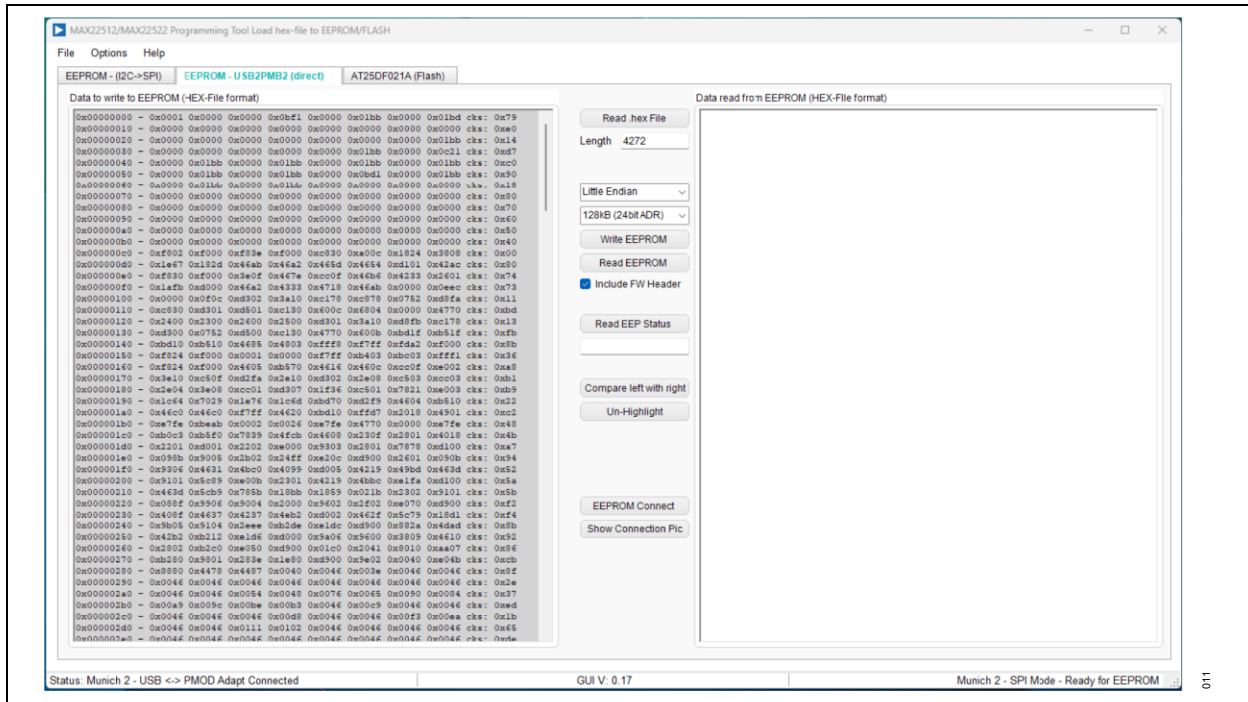

Figure 10. Data to Write to EEPROM Window in GUI before Write is Started
- Click the **Read .hex File** button and select the hex file for the information to program into the EEPROM. Once the hex file is select, the window on the left side of the GUI, **Data to write to EEPROM (HEX-File format)** fills with the data to write. The length of the hex file appears in the **Length** box. See Figure 10.